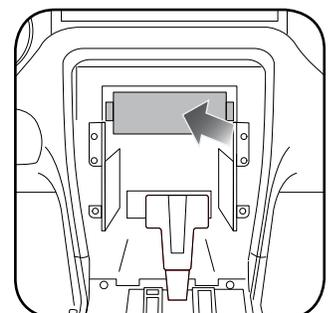

Fig. 1.8
8. Note: In some trims, this module may have to be relocated to make the new radio fit. (fig. 1.8)